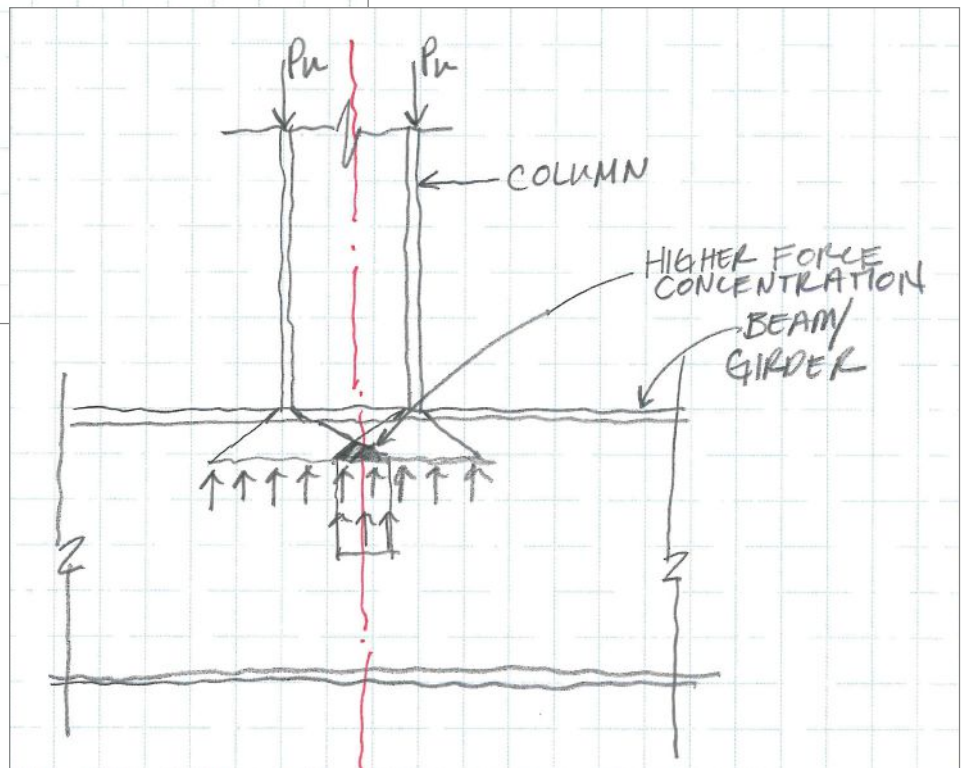

Fig. 2.
**Closely spaced stiffeners.** AISC Code Section J10 has equations for flanges and webs with concentrated loads. It is the connection designer’s responsibility to know how to accurately apply these equations to their situation. I’ll discuss how to handle two closely spaced concentrated loads at the center of a beam or girder, as illustrated in Figure 2.